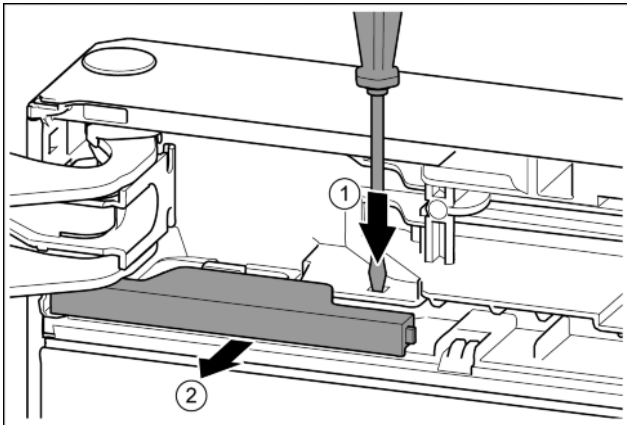

Fig. 13
- ▶ Press tab with Phillips screwdriver. Fig. 13 (1)
- ▶ Remove cover from the locking fixture. Fig. 13 (2)